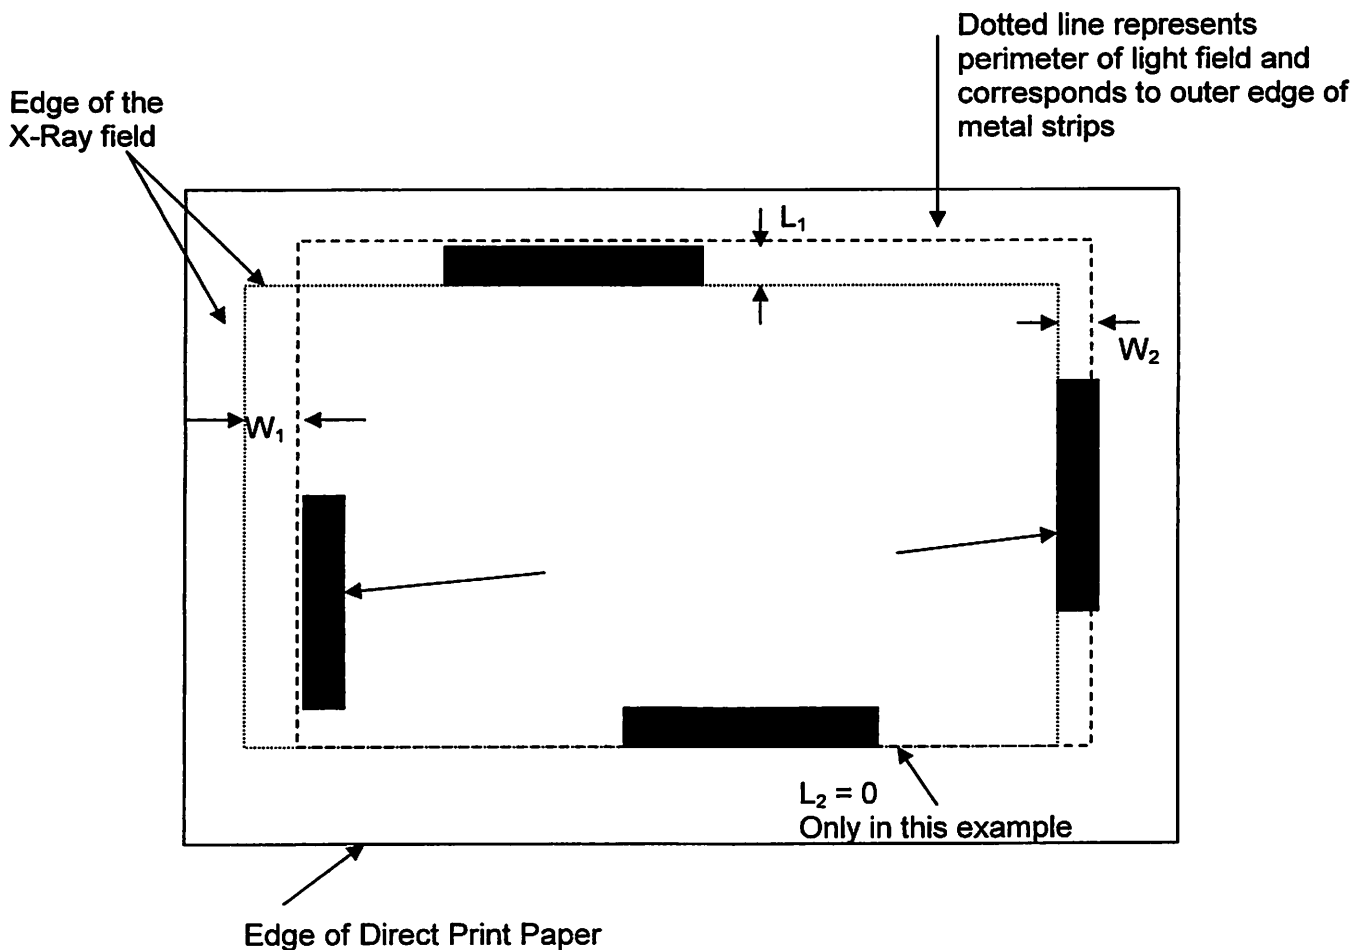

Figure 6.3
For determination of misalignment, compare the edges of the X-ray field to the edges of the light-field as defined by the outer edges of the metal strips. On each side of the rectangular fields, measure the separation between the X-ray field and the outside edge on the image of the respective metal strip. Sum these measured separations for opposite sides of the X-ray field to yield a total misalignment in the length and width dimensions. Record the length misalignment and width misalignment, both without regard to sign (see Paragraph D on following page and Figure 6-3).
For determination of misalignment, compare the edges of the X-ray field to the edges of the light-field as defined by the outer edges of the metal strips. On each side of the rectangular fields, measure the separation between the X-ray field and the outside edge of the image of the respective metal strip. Sum these measured separations for opposite sides of the X-ray field to yield a total misalignment in the length and width dimensions. Record the length misalignment and width misalignment, both without regard to sign (see Par. E below and Fig. 6-3).
3. Measure the distance between the edges of the two fields for each side of the rectangular fields (see Fig. 6.3).